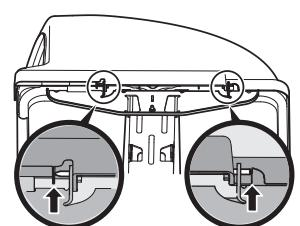

Figure 10
- At this point the pin clips into place and is secured by a tab in the bagger cover. See insets in Figure 10.